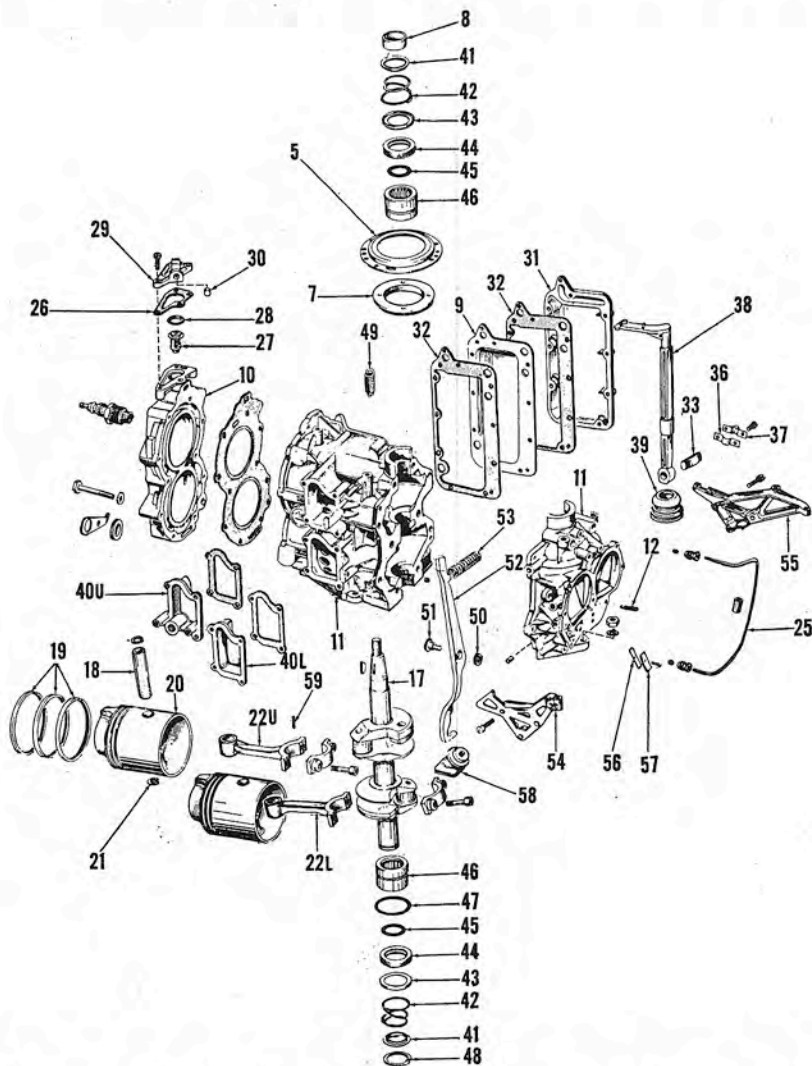
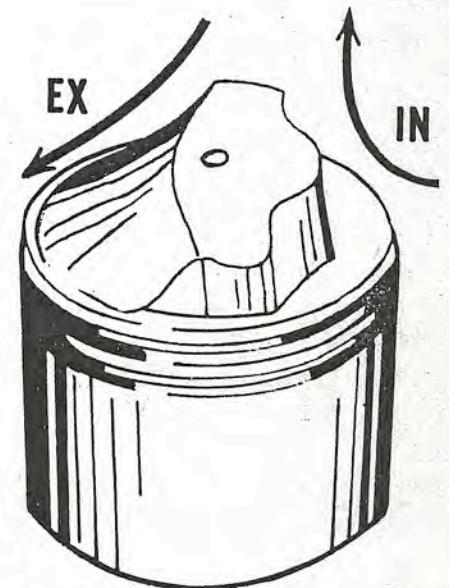

Fig. J19—Exploded view of series QD power head assembly. Thermostat (26 through 30) was not used on motors before 1959.
Fig. J21—Baffle on top of piston head directs flow of incoming fuel mixture for proper scavenging of exhaust gases.
Series QD Motors. Clamp the motor to a convenient support and remove the shroud, control panel and intake silencer. Remove starter unit, flywheel and magneto armature plate. Refer to Fig. J19.
When reassembling, piston should be installed with long tapering side of piston head toward exhaust port side of cylinder as shown in Fig. J21. On QD models, straight side of rods should face each other (toward center main bearing). Refer to (22L & 22U—Fig. J19). When installing connecting rods, tighten the cap screws to 60-66 inch-lbs. on Series JW, AD and CD; and 180-186 inch-lbs. on other models.
Fig. J20—Exploded view of series FD power head assembly. On early models, lower main bearing (46) is bushing type cast into crankcase halves. Late models are equipped with a thermostat assembly similar to that shown (26 through 30) in Fig. J19. Refer to Fig. J19 for legend except for the following.
Model QD motors are fitted with a forged steel connecting rod with 29 individual uncaged needle rollers at crankpin end of rod. Caged needle bearings are used at each end main bearing, while center bearing is a bronze bushing cast into the crankcase halves. Straight side of rods should face each other (toward center main bearing). Refer to (22L & 22U—Fig. J19).